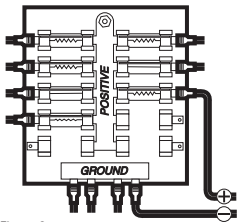

Figure 3
- 1a. If a fuse terminal is available, use crimp-on type electrical connectors (not included) that match the terminal on the fuse panel. Attach the black wire to ground (-), and the red wire to positive (+) 12 VDC power (Figure 3). Install a 1 amp fuse (not included) for protection of the unit. Humminbird® is not responsible for over-voltage or over-current failures.